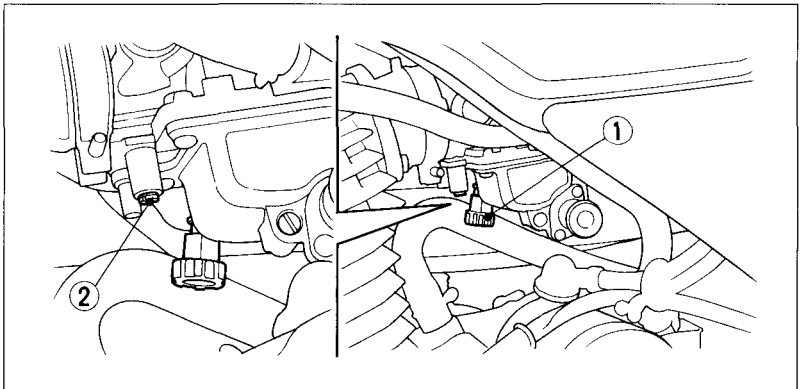

Fig. 4-9 (1) Throttle stop screw (2) Pilot screw
2. Adjust idle speed by turning the throttle stop screw (Fig. 4-9). Idle Speed: $1,400 \pm 100$ rpm.